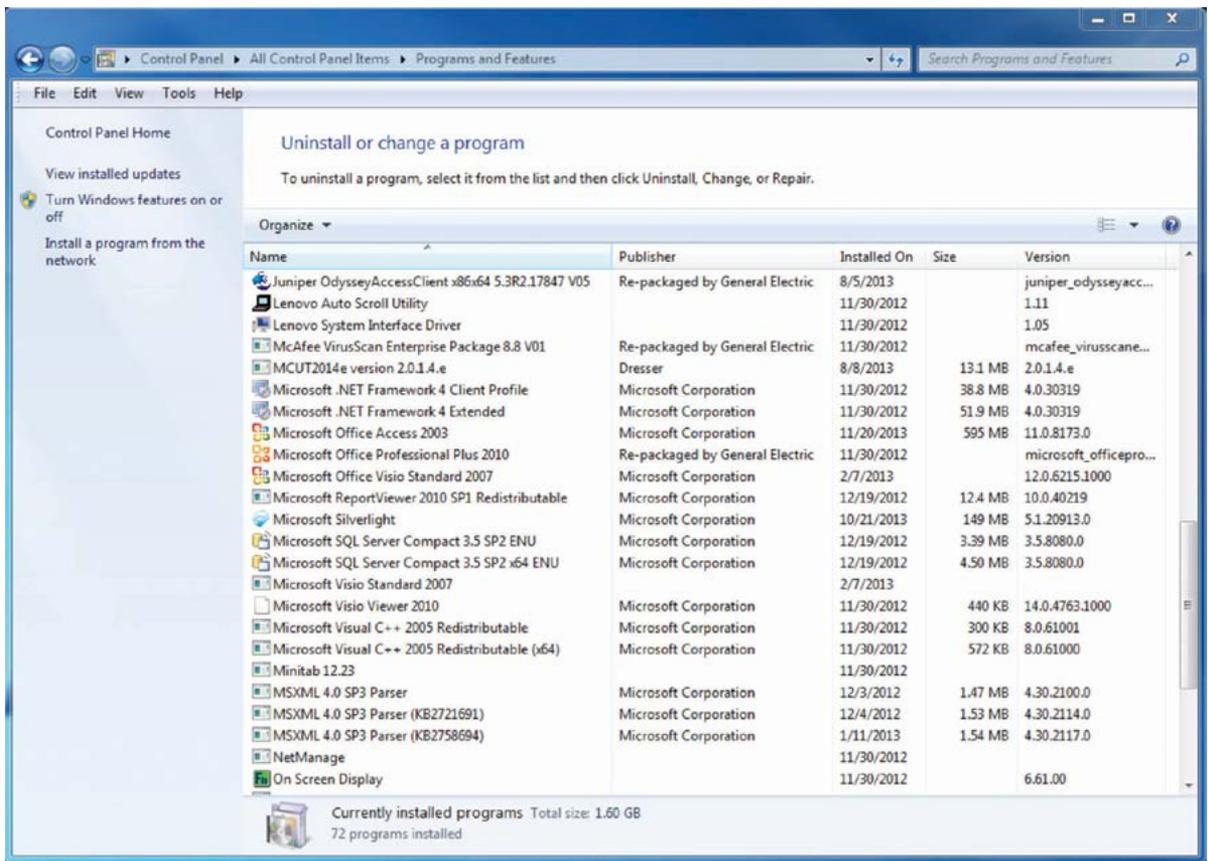

Figure 31: Confirm Deletions
11. Upon completion, confirm that both the Model 5 Transfer Prover software and the National Instruments software have been successfully deleted through the "Programs and Features" as shown in **Figure 31**. Refer to Steps 1 – 3 for instructions.